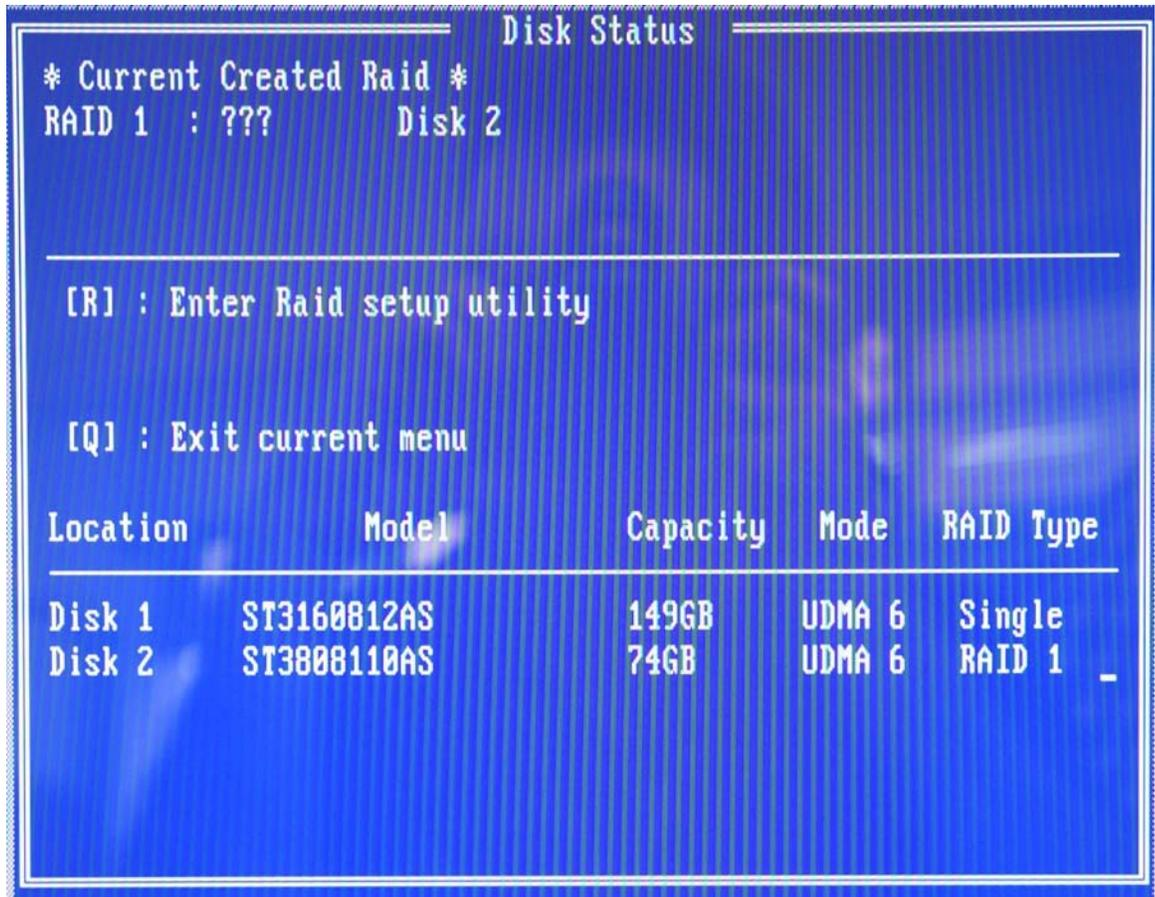

Figure D-4: BIOS RAID Utility
Step 2: The system prompts the user to press <CTRL> and <S> to enter the BIOS RAID Setup Utility (see **Figure D-4**).